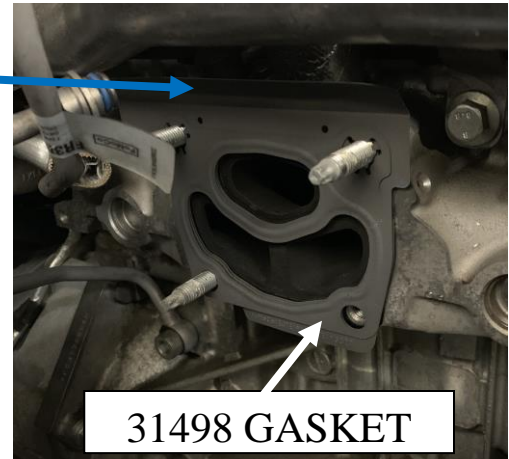

Fig. 18
1. Find and install the new gasket provided. Be sure the bent flange on the gasket points away from the engine head. See Fig. 18